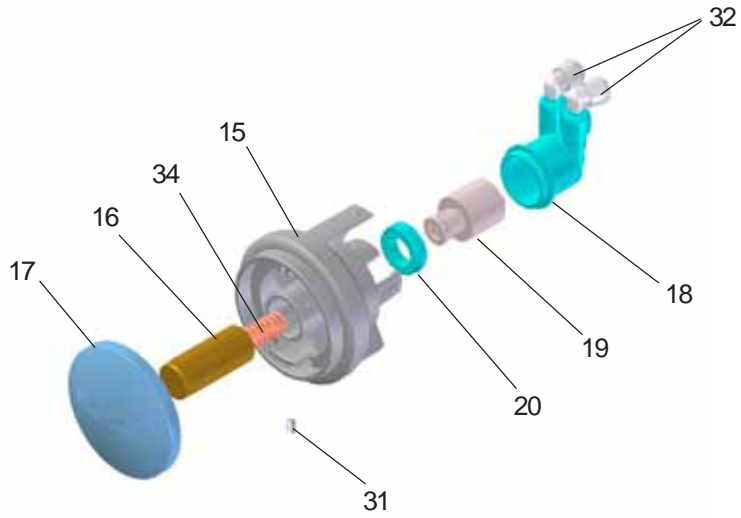

Figure 12 - Push Button
7. **Check** stream height from bubbler. Stream height is factory set at 35 PSI. If supply pressure varies greatly from this, remove push button (Item 17 - Figure 12) and adjust the screw on the regulator (Item 19 - Figure 12). To remove push button, remove setscrew from bottom of sleeve (Item 15). Insert a small punch in screw hole and push up while grasping the push button and pull forward removing the push button. Clockwise adjustment will raise stream height and counterclockwise movement will lower stream height. For best adjustment stream should hit basin approximately 6-1/2" from the bubbler. Reassemble push button by pushing in on button until the push button catches in the sleeve. Reinstall the setscrew (Item 31) in the sleeve (Item 15).
8. **Check** stream height from bubbler. Stream height is factory set at 35 PSI. If supply pressure varies greatly from this, remove push button (Item 17 - Figure 12) and adjust the screw on the regulator (Item 19 - Figure 12). To remove push button, remove setscrew from bottom of sleeve (Item 15). Insert a small punch in screw hole and push up while grasping the push button and pull forward removing the push button. Clockwise adjustment will raise stream height and counterclockwise movement will lower stream height. For best adjustment stream should hit basin approximately 6-1/2" from the bubbler. Reassemble push button by pushing in on the button until the push button catches in the sleeve. Reinstall the setscrew (Item 31) in the sleeve (Item 15).